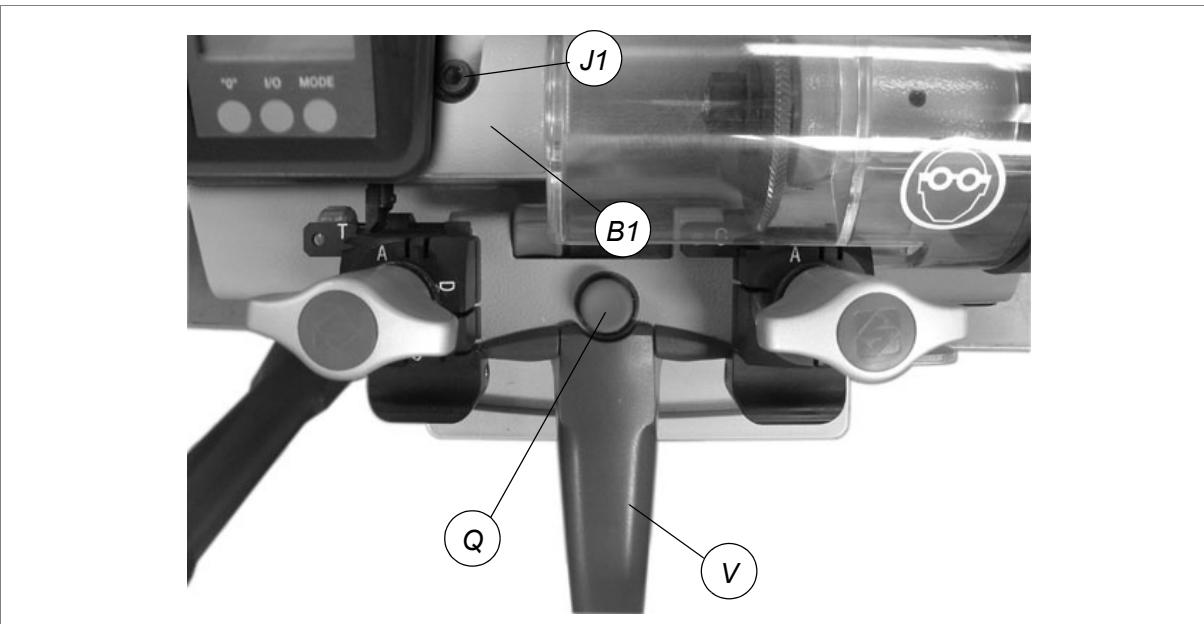
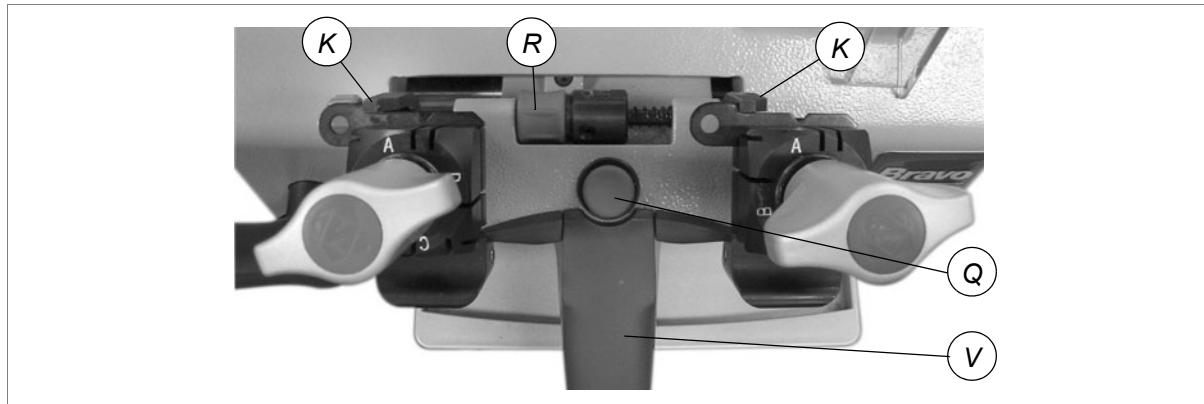

Fig. 15
Fig. 16
- 3) Release the carriage by lowering the knob (V) and pressing the push button (Q) right down (fig.15).
- a) loosen the screw (J1) to move the tracer point (fig.15).
- 1) Turn off the master switch (C) to operate safely and prevent activation of the cutting tool.
- 2) Place the adjusting key (provided) in the clamps (fig.16) with the notch facing the cutting tool and tracer point and proceed as follows:
- a) ensure that the keys adhere to the clamps and that the callipers (K) are in full contact with the stops.
- b) to take the callipers into contact with the keys, rotate the drum (R) towards you (away from you to return to the ideal position)
- 3) Release the carriage by lowering the knob (V) and pressing the push button (Q) right down (fig.16).
- 3) Release the carriage by lowering the knob (V) and pressing the push button (Q) right down (fig. 16, page 16).
- 4) Move the adjusting key so that the notch comes into contact with the cutting tool (A) and tracer point (B).
- a) loosen the screw (J1) to move the tracer point (fig. 15, page 15).
- 8) Lower the carriage by means of the handle (V) (it will engage automatically).